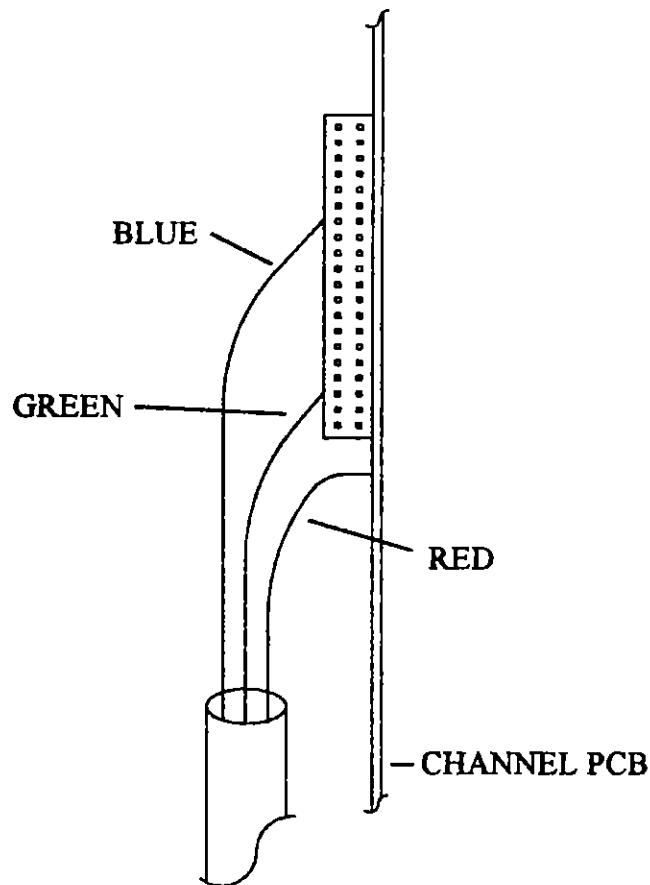

Fig. 3.
3. De-solder the Red, Green & Blue fader wires from the Channel PCBs for every Input Channel (not Group faders). *see Fig. 3.* **Do not** de-solder the wires from the faders. Clean up the remaining solder from the PCB holes using suitable solder braid or solder sucker.